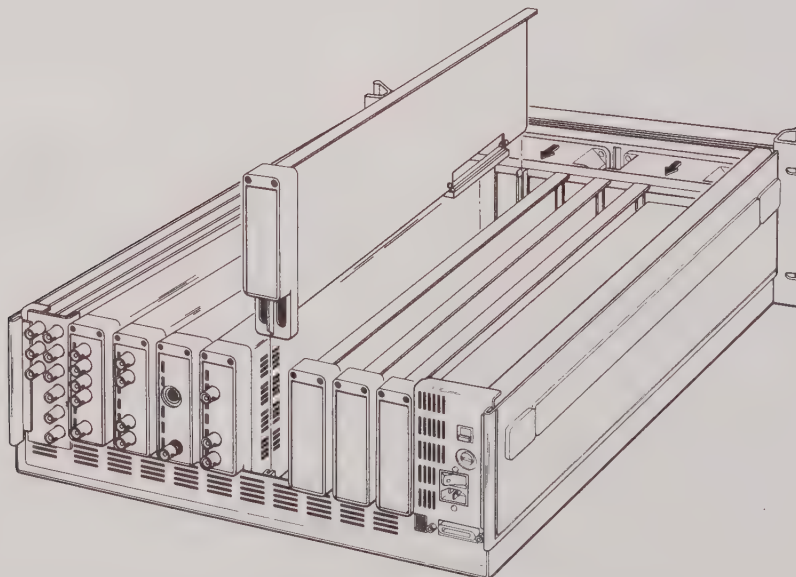

Figure 2-2. Example of Blank Module Placement
**If the installation requires Pulse Amplitude Modulation (PAM) of a Pulse/Timing Generator module, the Arb must be installed next to the Pulse Timing Generator and in the low numbered slot (For example, slot 1 of adjacent slots 1 and 2.) Blank modules must be used in nonfunctional slots for bus continuity, radiation control and air path control, as seen in figure 2-2.*